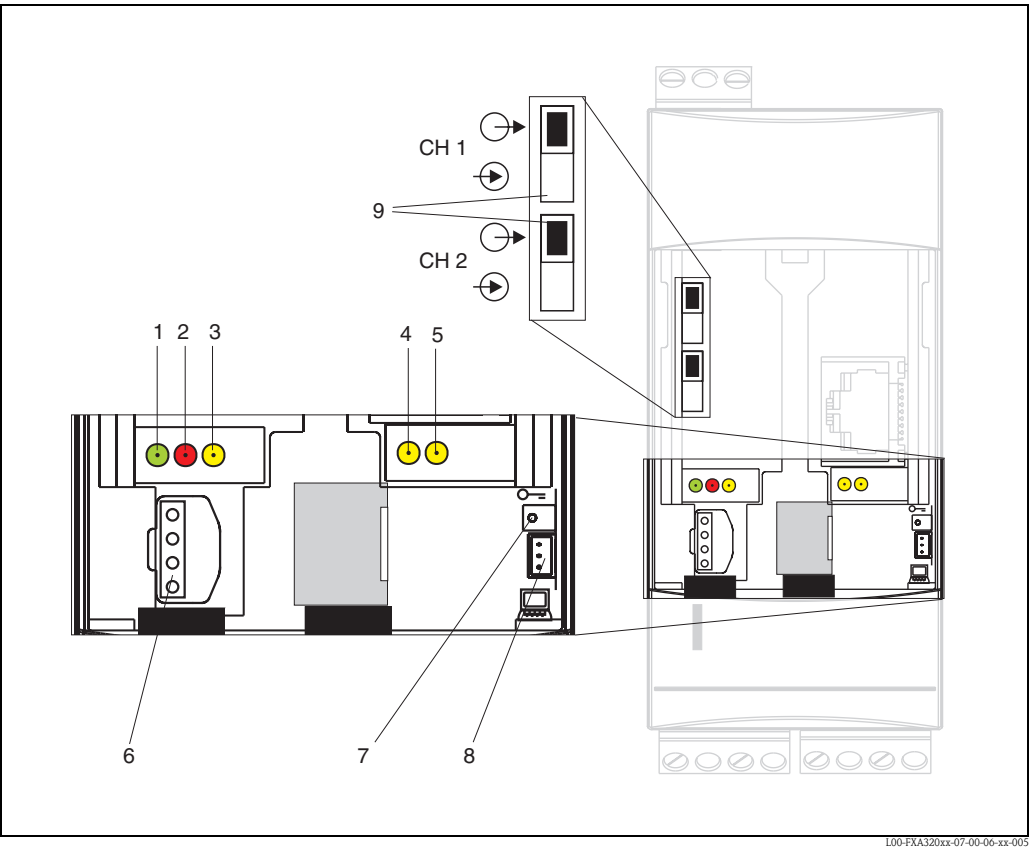

Fig. 6: Arrangement of display and operating elements on Fieldgate FXA 320
Arrangement of elements see Fig. 6.
Connect your personal computer and the Fieldgate with the PC cable supplied. The service connector (see Fig. 6, item 8) is used to connect the Fieldgate. An unassigned COM port is used to connect the PC.